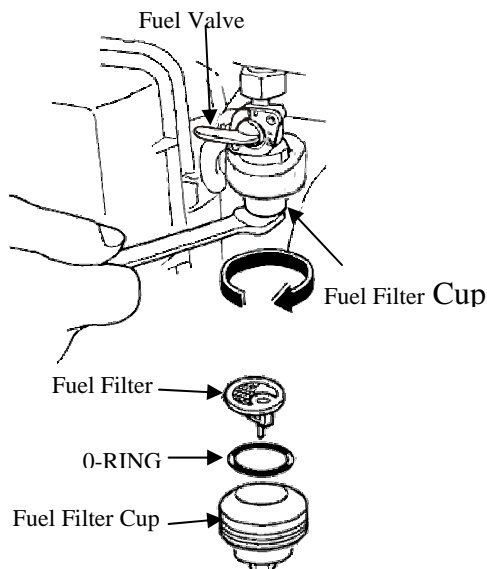

Figure 18- Removing the Fuel Filter Cup
2. Unscrew the fuel filter cup from the fuel valve using a wrench. Turn the valve toward you to unscrew (see figure 18).